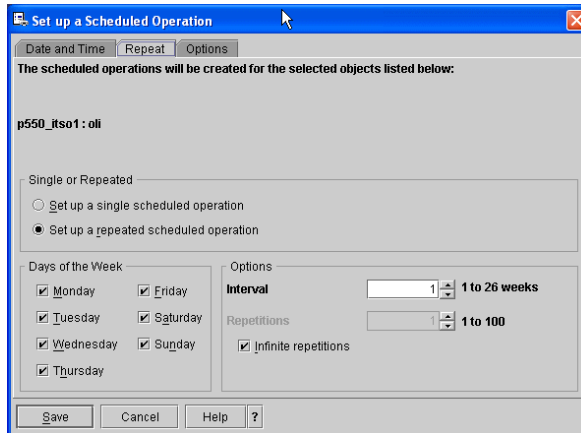

Figure 18 Selecting the days of the week for the schedule
- Click on the **Repeat** tab and select the days of the week for running the scheduler. We selected each day of the week for an infinite period of time as shown in Figure 18 on page 31.